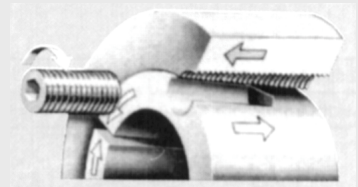

Fig. 2
3. Lightly oil or grease the mounting screws and screw them in loosely. Do not tighten the screw yet (Fig. 2).